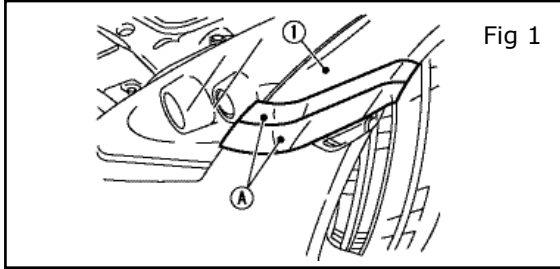

Fig 1
Apply protective tape (A) to protect the front fender (1) (LH/RH) from damage. Shown in Fig 1.